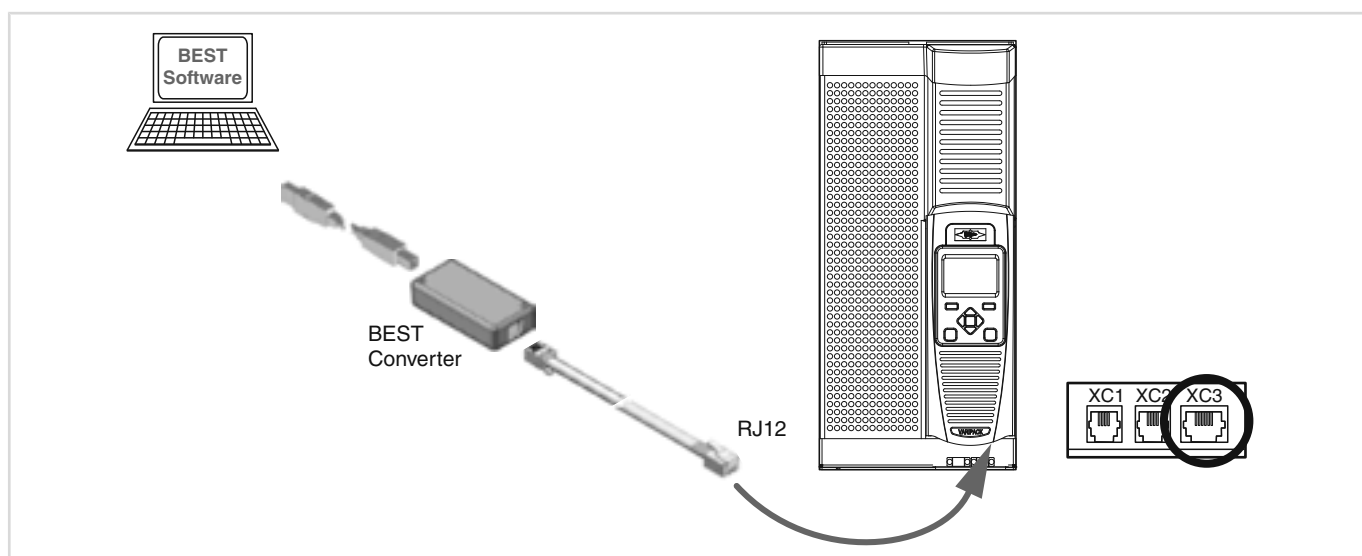

Fig. 18: Connecting VARIPACK via BEST interface converter and RJ12 cable with a PC/mobile device
- Plug the BEST interface converter into the right socket (XC3) on the underside of the interface extension of the VARIPACK frequency inverter using the RJ12 cable (see figure 18, page 65).